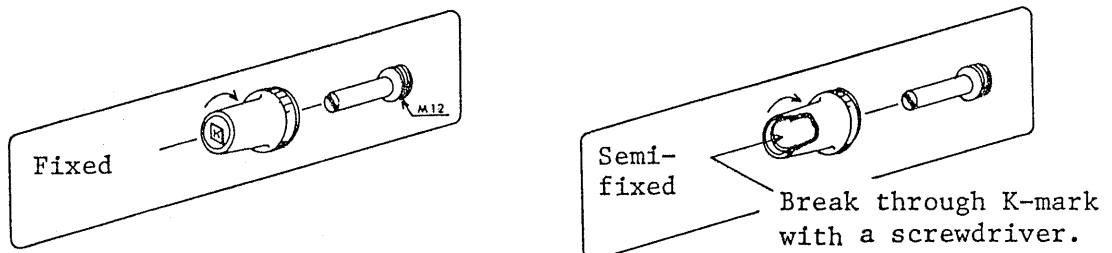

Figure 2-4
1. Change connections on terminal board of main power transformer. (See Figure 2-4.)